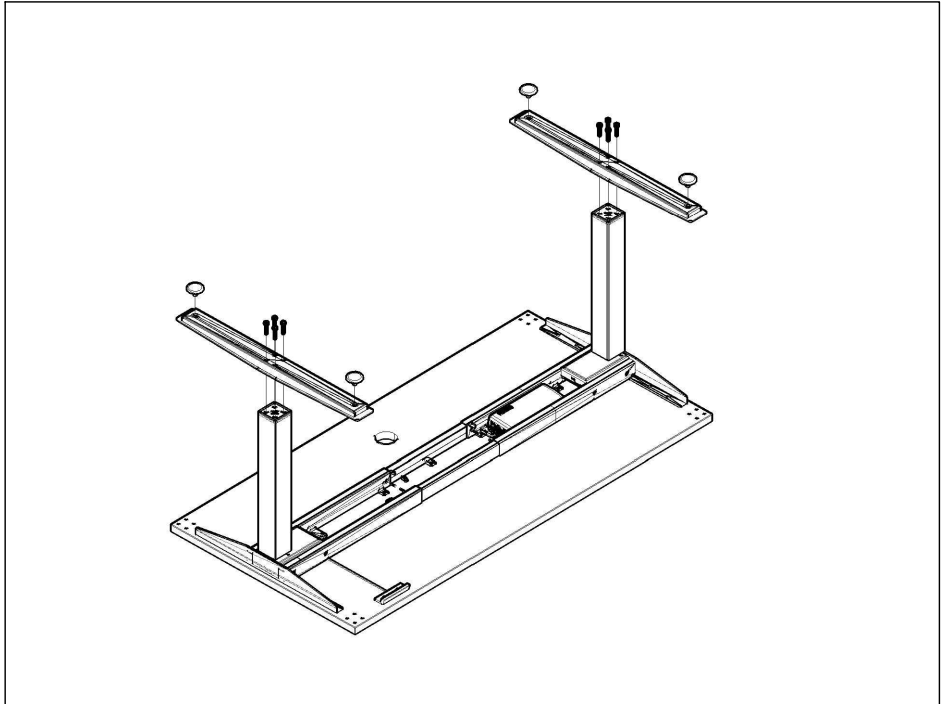

FIGURE 14
13. Install the foot with M10 x 35 machine screws using 5 mm allen screw wrench, then install the glides (Figure 14).